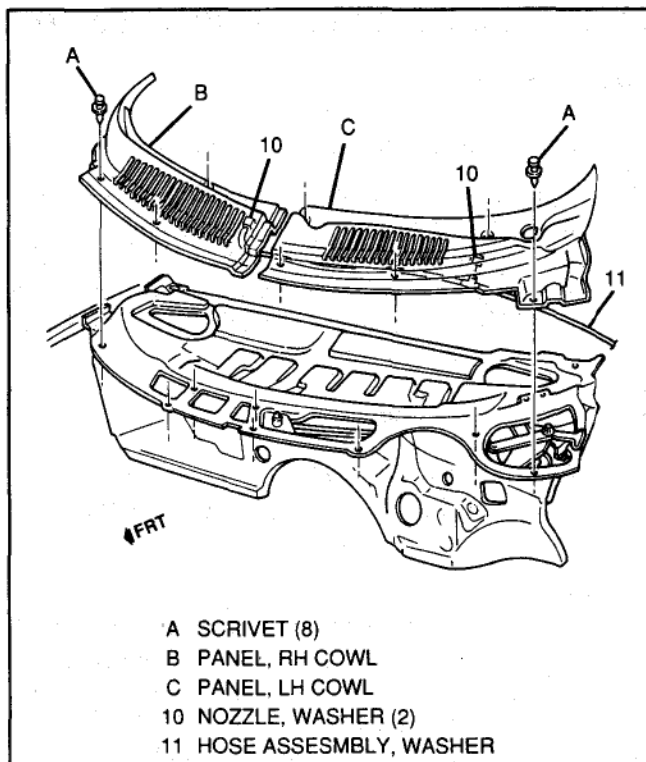

Figure 16 – Cowl Panels and Washer Components
If a washer nozzle (10, Figure 16) becomes plugged, apply air pressure. If a nozzle remains plugged, the nozzle must be replaced.
Figures 16 through 19
4. Washer hose assembly (11, Figure 16) from LH cowl panel.
- Screw (14) and nut (20) to 10 N•m (7.5 lb. ft.).
8. Washer hose assembly (11, Figure 16) to LH cowl panel and washer nozzle (10).
3. Washer hose assembly (11, Figure 16) from LH cowl panel.